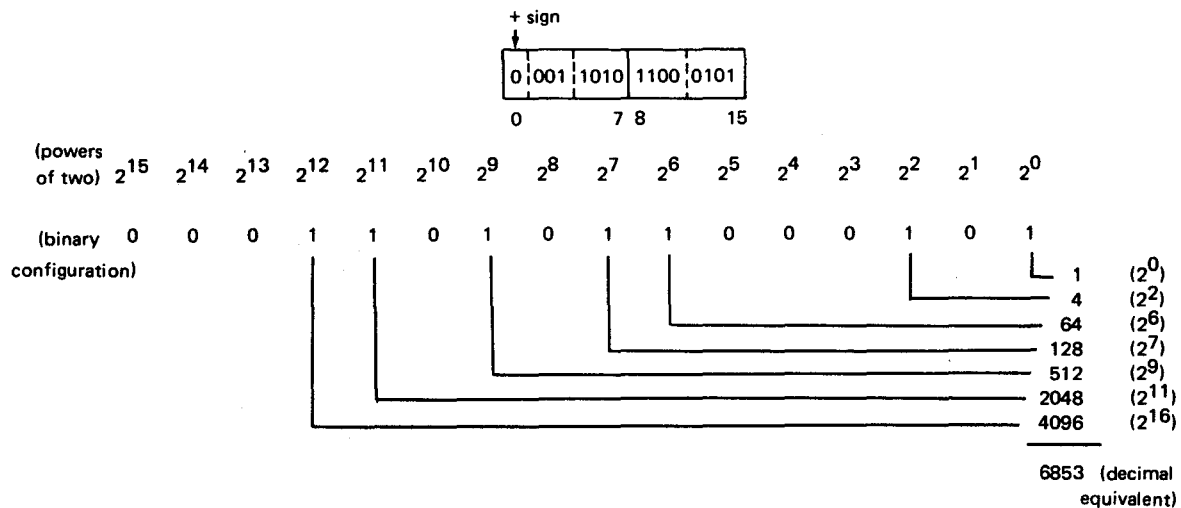

Figure 10—1. Comparison of Binary Numbers and Values Expressed in Powers of 2
Binary ones and zeros, with relation to their positions in a string of bits, represent values expressed in powers of two (see Appendix C.3). The powers of two increase from right to left (Figure 10—1). A zero (0) bit indicates no value and a one (1) bit indicates that a value exists. By adding all the powers of two that correspond to one bits, you can determine the decimal equivalence for a positive binary number. A zero bit in the high order bit or any unused high order bits signify a positive binary number.